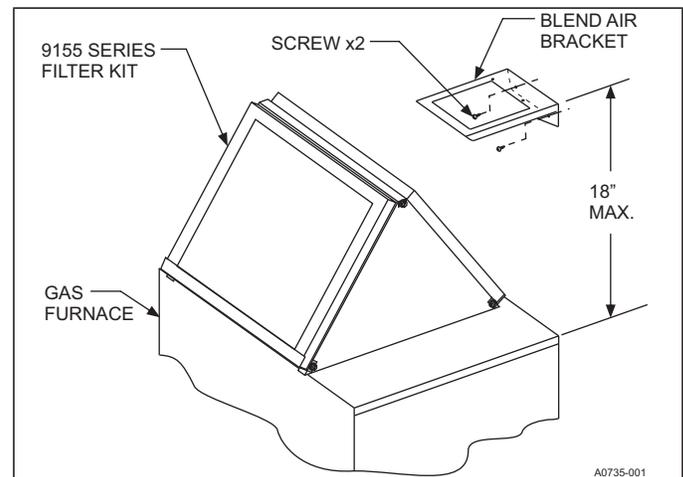

FIGURE 6: Blend Air Bracket
- If the return air duct and plenum are not required by state, local or regional codes then the filter can be attached to the top of the furnace as shown in Figure 6.
This bracket is to be used only for Alcove application on the 95% Gas Furnaces. It helps in installation of Blend Air Damper Tube close to the furnace. It is recommended that the Blend Air be installed with the help of this bracket as close to the furnace as possible. The Blend Air Bracket Assembly must be installed as close to the return air grille as possible. See Figure 6.